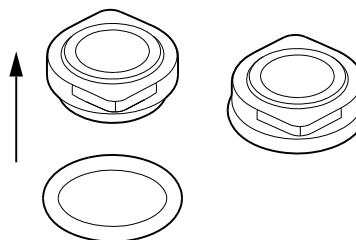

Fig. 4 Fitting the O-ring on the stationary shaft seal part
1. Fit O-ring (pos. 102) on the stationary shaft seal part. See fig. 4. For correct lubricant, see section 3. *Tightening torques and lubricants*.